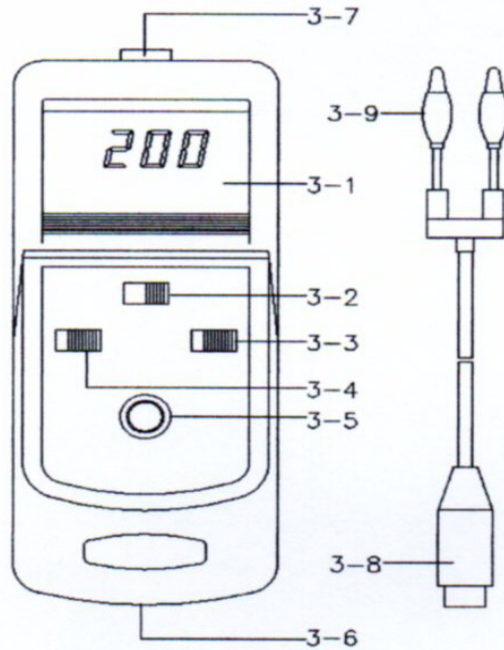

Fig. 1
- 1) Install the " Cable Plug " (3-8, Fig. 1) into the " Input Socket " (3-7, Fig. 1).
- 2) Slide the " Function Switch " (3-2, Fig. 1) to the " CURRENT SOURCE " position.
- 3) Slide the " Range Switch " (3-4, Fig. 1) to " 0 - 19.99 mA " position for getting the 0.01 mA display resolution (max. display is 19.99 mA). Slide the " Range Switch " (3-4, Fig. 1) to " 0 - 24.0 mA " position for getting the 0.1 mA display resolution.
- 4) Adjust the " Calibration Adjust knob " (3-5, Fig. 1) will generate the current output same as the display value.
The " Red Alligator clip " (3-9, Fig. 1) is for the positive current output. The " Black Alligator clip " (3-9, Fig. 1) is the " ground " for current output.
- 2) Slide the " Function Switch " (3-2, Fig. 1) to the " mA MEASURE " position.
- 3) Slide the the " Range Switch " (3-4, Fig. 1) to " 0 - 19.99 mA " position for geeting the 0.01 mA display resolution (max. display is 19.99 mA). Slide the " Range Switch " (3-4, Fig. 1) to " 0 - 24.0 mA " position for getting the 0.1 mA display resolution.
- 4) Open the circuit in which current is to be measured and connect the " Alligator Clips " (3-9, Fig. 1) securely in series with the load in which the current is be measured.
The " Red Alligator clip " (3-9, Fig. 1) is for the positive current measurement input. The " Black Alligator clip " (3-9, Fig. 1) is for the negative current measurement input.
- 2) Slide the " Function Switch " (3-2, Fig. 1) to the " POWER/ mA MEASURE " position.
- 4) Open the circuit in which current is to be measured and connect the " Alligator Clips " (3-9, Fig. 1) securely in series with the load in which the current is to be measured.
- a. *The " Red Alligator clip " (3-9, Fig. 1) is for the positive current measurement input.
- 2) Slide the " Function Switch " (3-2, Fig. 1) to the " VOLTAGE SOURCE " position.
- 3) Adjust the " Calibration Adjust knob " (3-5, Fig. 1) will generate the voltage (mV) output same as the display value.
The " Red Alligator clip " (3-9, Fig. 1) is for the positive voltage output. The " Black Alligator clip " (3-9, Fig. 1) is for the negative voltage output.
- 2) Slide the " Battery Cover " (3-6, Fig. 1) away from the